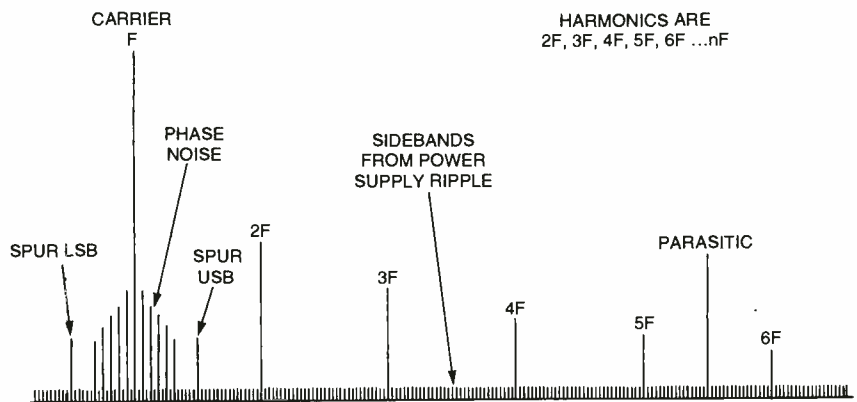

Fig. 1. Shown here is an amplitude-vs-frequency plot of a hypothetical transmitter, as displayed by a spectrum analyzer.
A Look at the Circuit. A schematic diagram of the *Pocket Metronome* is shown in Fig. 1. At the heart of the circuit is an NE556 dual oscillator/timer, IC1, which contains two highly stable oscillators that are
Fig. 1. At the heart of the Pocket Metronome, as revealed by this schematic diagram, is IC1—an NE556 dual oscillator/timer—which contains two independently configurable, highly stable oscillators that share only their power and ground connections.
diagram in Fig. 1), connecting each as required (or possible at this point) before moving to the next part. Carefully make all intercomponent connections using a low-temperature (600°F) pencil-type soldering iron. Note: Components S1-S3, R4, and BZ1 should all be epoxied to the perfboard for support—five-minute epoxy works fine
Figure 1 shows an amplitude-vs-frequency plot of a hypothetical transmitter, as displayed by a *spectrum analyzer* (i.e., a frequency swept receiver with its output connected to an oscilloscope that is swept with the same sawtooth as the receiver's local oscillator).
The main signal is the carrier, F , which is the highest amplitude "spike" in the display. We'll consider only an unkeyed continuous wave signal because modulation sidebands would make a mess out of our clean little picture. All of the amplitudes in Fig. 1 are normally measured in dBc (decibels below the carrier). A signal that is -3 dBc, for example, would be 3 dB lower than the carrier or about half the power of the carrier. For spurious outputs, the lower the level the better, so look for high negative dBc values (e.g., -60 dBc or more).
Because the process of generating a single frequency (F) is not a perfect and precise operation—there's normally a certain amount of noise energy surrounding the carrier. Some of the signals are caused by thermal noise in the circuit, as well as other sources. The signals tend to modulate the carrier, creating the phase-noise sidebands shown in Fig. 1.
oscillation occurs in supposedly broadband solid-state power amplifiers. In some units, a broadband toroid transformer is used to couple the input and output to the transistors of the power amplifier. In such circuits, a DC blocking capacitor is used to prevent bias from being shorted out through the transformer. Unfortunately, the inductance of the transformer and the capacitance of the coupling capacitor form a tuned resonant circuit. If both input and output are tuned to the same frequency, then a species of TGTP-like oscillations are produced. Such oscillations tend to occur in the 10- to 200-kHz range, generating spurious RF sidebands (SPUR LSB and USB in Fig. 1) spaced at that frequency from the carrier, F.
Few transmitters produce a single frequency with no modulation, so Fig. 1 is rather simplistic in order to illustrate the actual case. When the transmitter is modulated (AM, PM, FM *etc.*), sidebands appear. Let's consider only the AM case for simplicity's sake. Let's say we have a 1-kHz audio-sinewave tone modulating a 1000-kHz (1-MHz) RF carrier. When the modulation occurs, a new set of sideband signals appear: The lower sideband (LSB) will appear at $1000 \text{ kHz} - 1 \text{ kHz} = 999 \text{ kHz}$, while the upper sideband (USB) will appear at $1000 \text{ kHz} + 1 \text{ kHz} = 1001 \text{ kHz}$. In the case of a voice amplifier, the nominal range of audio frequencies is about 300 Hz to 3 kHz, so the normal speech sidebands will appear at $\pm 3 \text{ kHz}$ from the carrier, or in our 1000-kHz case, from 997 kHz to 1003 kHz.
The drawing in Fig. 1 illustrates the relationship between the flywheel and piston in all four positions of a typical single-cylinder, four-stroke gasoline engine. (Note the position of the harmonic balancer, also called a vibration dampener, on the flywheel for each quarter cycle of the four-stroke engine.) Figure 1A represents the intake stroke—the time in which gas and air are "sucked" into the cylinder during the first half turn of the flywheel. Following that stroke comes the compression stroke (as illustrated in Fig. 1B)—the period during which the air/fuel mixture is squeezed into an increasingly smaller area as the piston travels up the cylinder and the flywheel completes one full revolution. When the piston reaches the point of maximum compression (top dead center or TDC), a spark is introduced into the cylinder, igniting the air/fuel mixture. That, in turn, forces the piston downward (i.e., creating the power stroke) and moves the flywheel forward another one-half turn, as shown in Fig. 1C.
Fig. 1. Shown here are the various phases of a typical single-cylinder four-stroke gasoline engine. The drawing in A represents the intake stroke, B illustrates the compression period, C shows the power stroke, and D demonstrates the exhaust stroke.